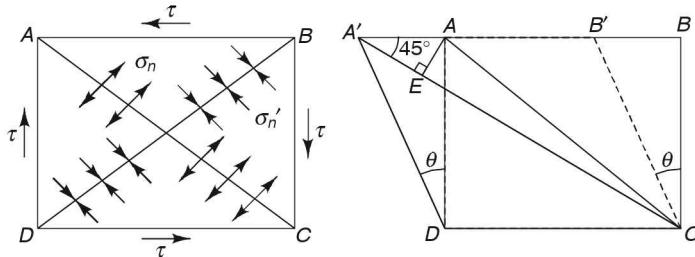

FIGURE 15.20 Relationship between modulus of rigidity and Young's modulus.
The modulus of rigidity (G) is related to Young's modulus which is derived as follows. Refer to Figure 15.20.